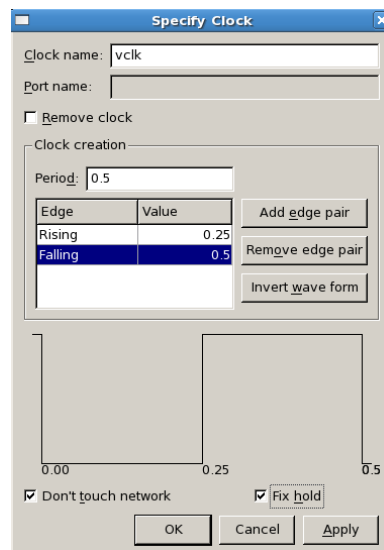

Figure 17: Specify Clock
- Select Attributes->Specify Clock (see. Figure. 17);